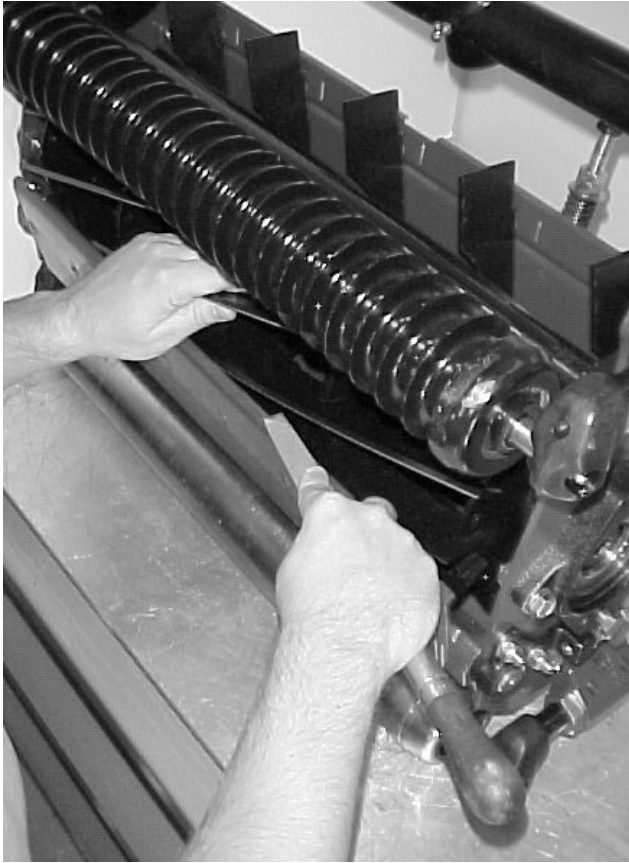

Figure 66
12. When the cutting unit is adequately sharpened, a burr will form on the front edge of the knife. Using a file, carefully remove the burr without dulling the cutting edge (Fig. 66).